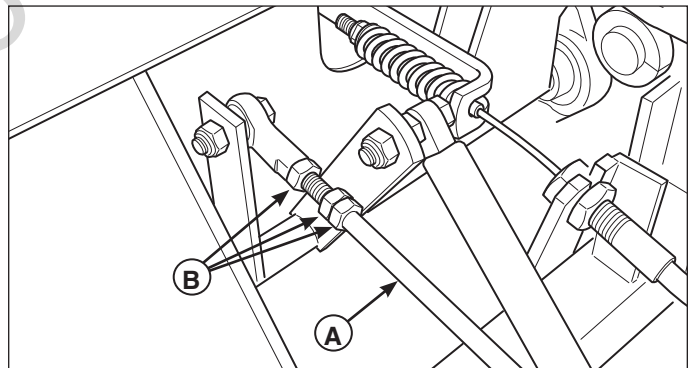

Figure 37. Neutral Adjustment (RH side shown)
2. There are three nuts (B, Figure 37) on the linkage rod. The first two are to be used together to turn the rod and the third (towards the front of the machine) is used to lock the rod in place. Loosen the jam nut that locks against the ball joint (B, Figure 37) and turn the linkage rod (A) to adjust. If the machine creeps forward, turn the rod CLOCKWISE (while standing at the rear of the machine, facing forward), if the machine creeps backward, turn the rod COUNTER-CLOCKWISE.
3. Lock the jam nut (B) against the ball joint when neutral is achieved.